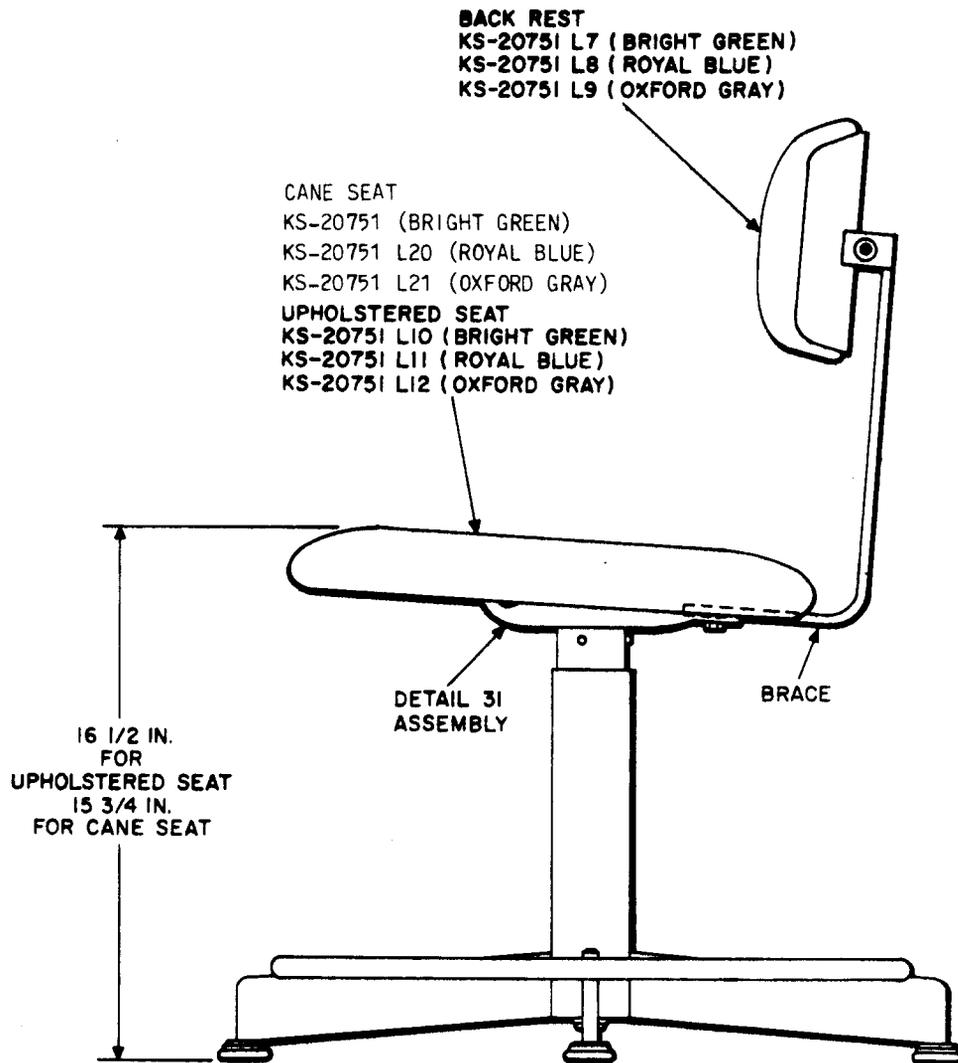

Fig. 6—Replacement Part Information for KS-20751 Operator Chairs
2.05 The only piece parts of the KS-20751 or ♦KS-22063♦ operator chairs to be replaced in the field are the seats, backseats, floor glides, spindle covers, and casters (KS-22063 chair only). See Fig. 6 and 7 for piece-part information. If the chair, for any reason, needs repair besides replacement of these parts, the chair may be disposed of or used for the basis of an engineering complaint.